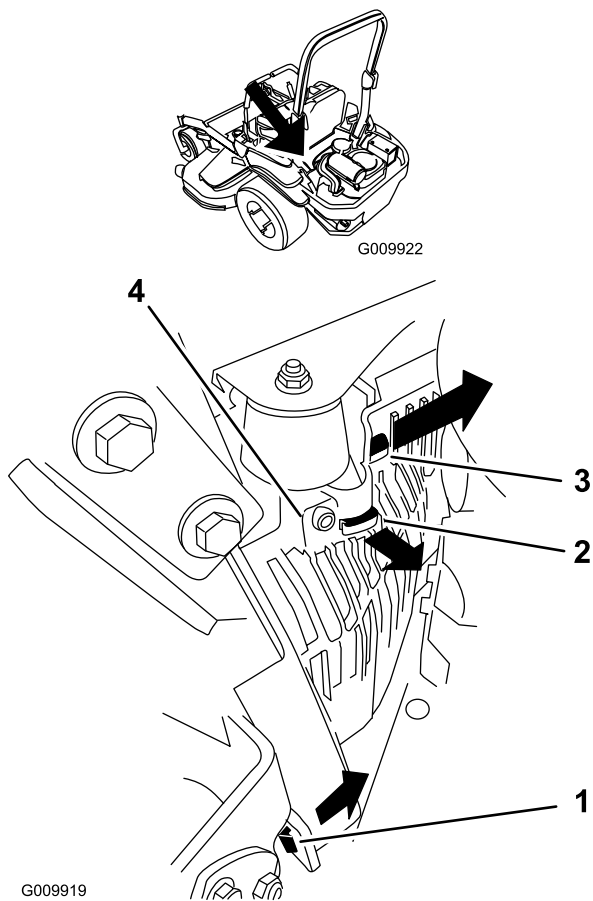

Figure 53
3. Remove the lefthand hydraulic unit shroud in the order listed with Figure 53, to gain access to the front spark plug.
5. Install the left-hand hydraulic unit shroud (Figure 53).